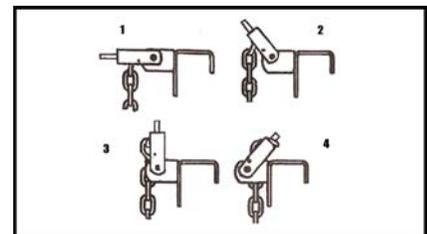

Figure 7: Raise the lift bracket with the chain and secure with locking pin.
•Raise the lift bracket and secure with the locking pin (see Figure 7). Repeat procedure on the opposite side of the trailer using the same number of chain links as the first side.
-If the front wheel well height is higher than originally measured, increase the load on the spring bars by either raising the chains or adding hardened washers ⑬ under pin ⑭. **NOTE:** To allow movement when turning, there should be at least 5 links between the lift bracket and the spring bars. The number of links should ALWAYS be the same on both bars.